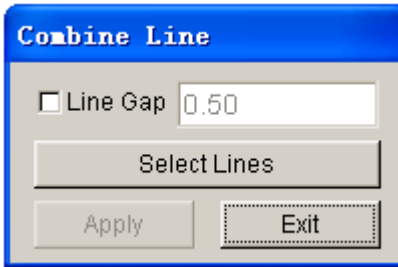

Figure 5.1.23 Combine Line dialog box
- Click on the Combine Line icon from the LINE/POINT dialog box. The program will pop-up a dialog box, as illustrated in Figure 5.1.23, for the user to define the Line Gap value between lines. If the user doesn't toggle on the line gap option, all selected lines will be combined. The default is 0.5.